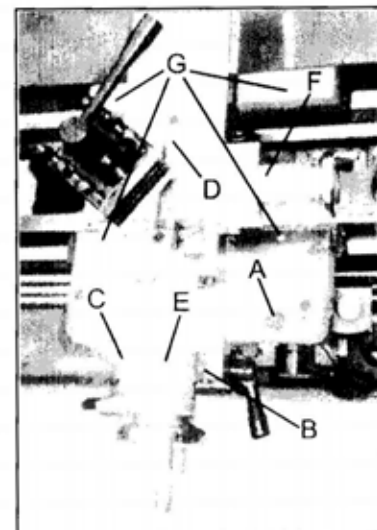

Fig. 5
4. **Apron** – Remove oil cap (A, Fig. 5) on right side of apron to fill the apron. Lubricate one oil port (B, Fig. 5) on the apron top and one oil port (C, Fig. 5) on the apron hand wheel once daily with 20W machine oil.
5. **Cross Slide** – Lubricate one oil port (D, Fig. 5) with 20W machine oil once daily.
6. **Compound Rest** – Lubricate one oil port (E, Fig. 5) with 20W machine oil once daily.